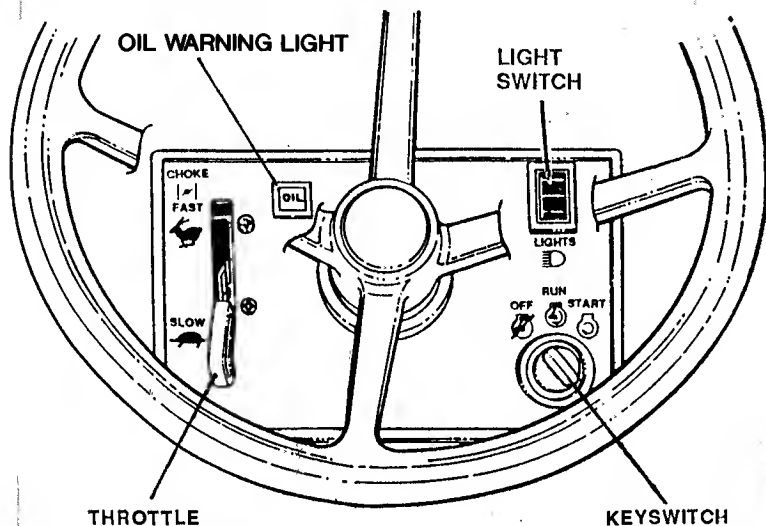

FIGURE 2
**ENGINE: STOP ENGINE** by turning the KEYSWITCH to "OFF". See Figure 2.
2. CHOKE ENGINE for cold starting by moving THROTTLE CONTROL to "CHOKE" position. (Little or no choking will be needed when restarting a warm engine). Refer to Figure 2.